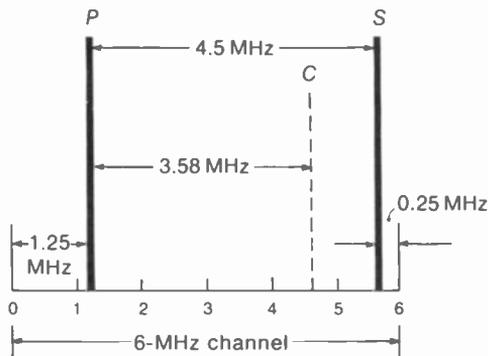

FIGURE 2-6 THE 6-MHz TELEVISION BROADCAST CHANNEL. P IS PICTURE CARRIER; S IS SOUND CARRIER; C IS COLOR SUBCARRIER.
**Carrier frequencies.** Figure 2-6 shows how the different carrier signals fit into the standard 6-MHz channel. The picture carrier frequency labeled P is always 1.25 MHz above the low end of the channel. At the opposite end, the sound carrier frequency labeled S is 0.25 MHz below the high end. This spacing of the carrier frequencies applies for all TV channels in the VHF or UHF bands, whether the broadcast is in color or monochrome.